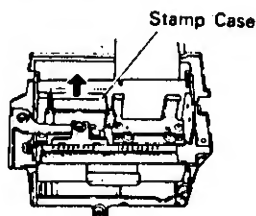

Fig. 15
2. Pull out the Store Message Stamp upwards. (Fig. 15)